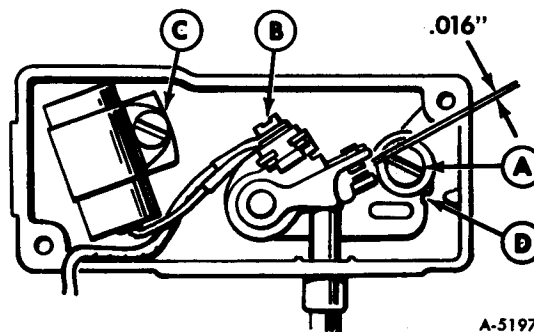
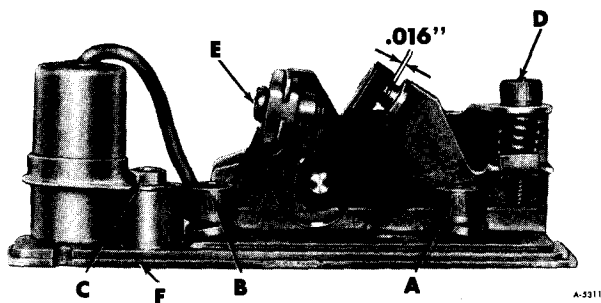

Figure 1—Breaker Point Adjustment—Type 1
Figure 2—Breaker Point Adjustment—Type 2
To maintain maximum efficiency from the Onan unit, check the breaker points every 100 hours and change the breaker points every 200 hours of operation. The breaker point box may be of two types, refer to figure 1 or figure 2. To change the breaker points and set the ignition timing, use the procedure appropriate to particular unit.
7. Rotate engine clockwise (facing flywheel) by hand until 20° BTDC mark on flywheel aligns with center of timing access hole. (Note, early units marked at 25° BTDC should be set at 25° BTDC.) Then, using a screwdriver inserted in notch (D) on the left side of the points (reverse view of figure 1), adjust points until test lamp just goes out (or Ohmmeter reads Infinity). Tighten screw (A).